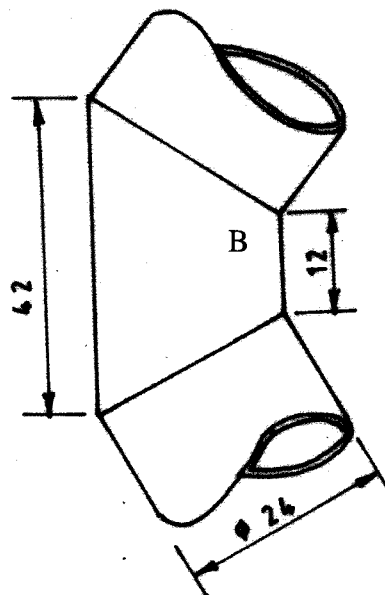

Fig. 1
- 11 **Figure 1** shows a truncated pipe of diameter 24 mm. Draw the development of part B. (15 marks)